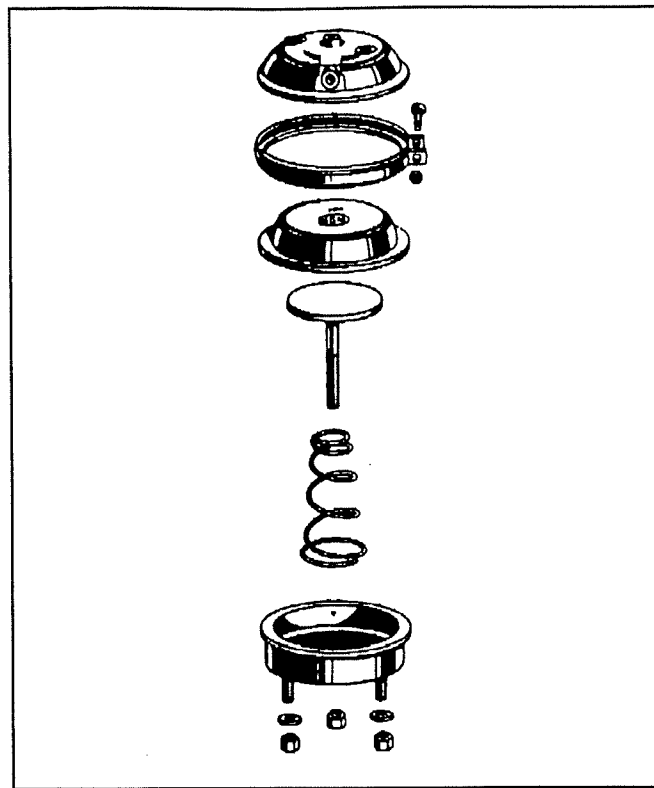

FIG. 8 - Disassembly of front brake chamber
2. Remove clamp ring nut and bolt (refer to figure 8 for details).